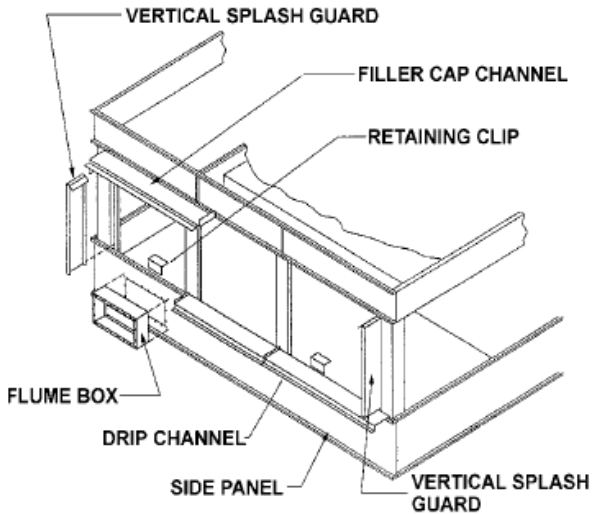

Figure 5 - Attachment of Drip Channel and Splash Guards
11. Place the vertical splash guard in the bend of the vertical supports. Attach the vertical splash guard using M8(5/16") self-tapping screws. On stainless steel units, attach the vertical splash guard using M8(5/16") stainless steel nuts and bolts. See Figure 5.